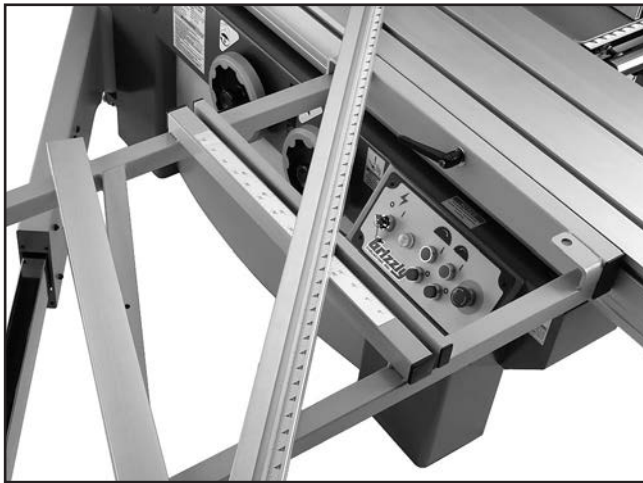

Figure 94. Fence set-up for 90° to 135° cuts.
2. Place the crosscut fence center stud in the center stud hole of the crosscut table. The fence can be installed as shown in **Figure 94** for 90° to 135° cuts, or as shown in **Figure 95** for 0° to 90° cuts.